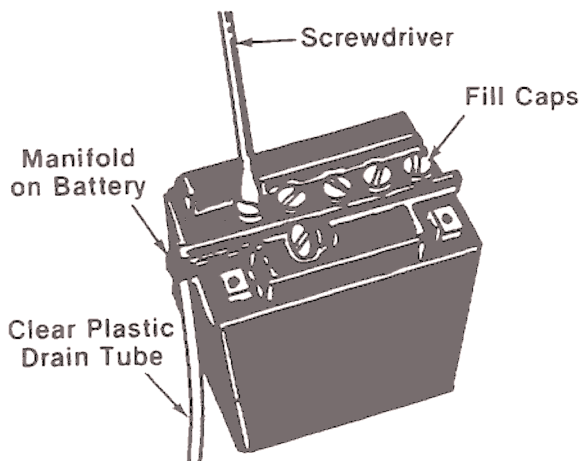

FIGURE 2.
3. Place one end of clear plastic drain tube on —manifold of battery. See figure 2.
4. Remove the six fill caps from the top of the battery with a screwdriver. Care should be taken not to damage the fill caps. See figure 2.